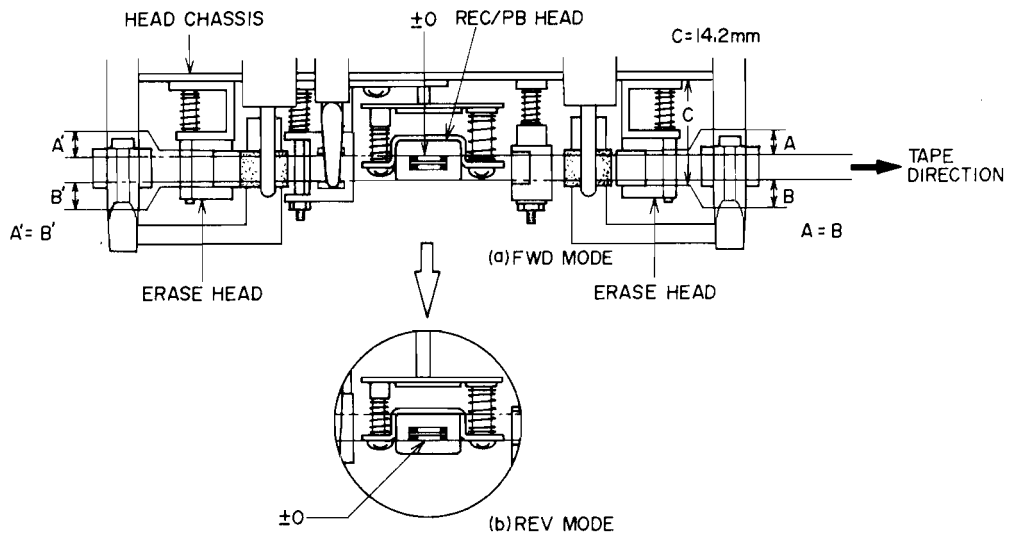

Fig. 14
Adjust by turning the adjustment nut until the height, taken from the surface of the Head Chassis to the lower tip of the Erase Head Core (Fig. 14 C) is 14.2 mm.
- 2) The adjustment to Tape Guides (A) and (B) are carried out with the Erase Head at the standard height. Put into the FWD mode and adjust Tape Guide (A). Make the width of the sections (A and B in Fig. 14) protruding from both ends of the tape of the left side Erase Head the same. Next in the REV mode adjust Tape Guide (B) until A and B in Fig. 14 are the same. Finally, in either FWD or REV modes. Check that the tape is running smoothly without catching on the tape guides.